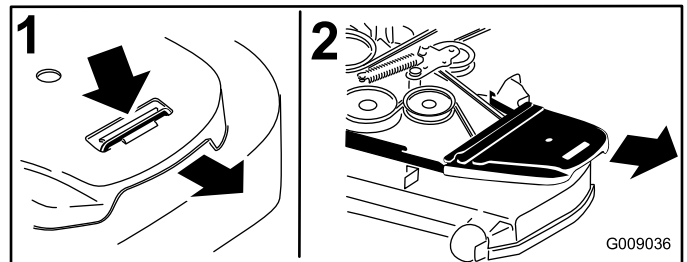

Figure 75
- Remove the belt covers (Figure 75).